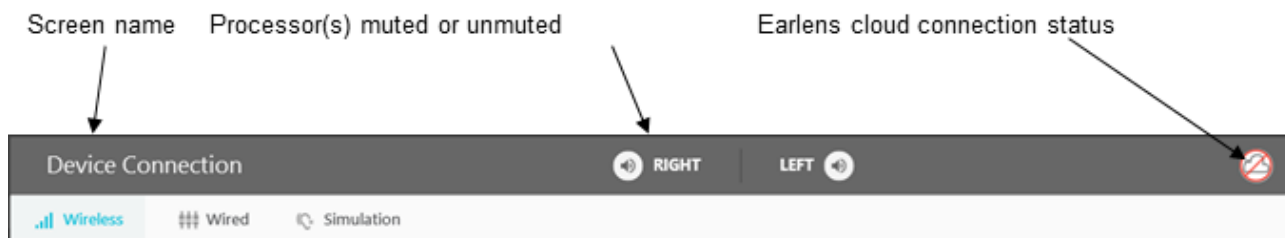

Figure 9: Information Bar
• **Information Bar** (Figure 9)